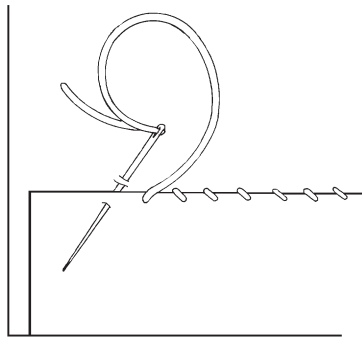

Fig. 13-9
- ❑ **Whipstitch.** Use this technique when the hem is finished with seam tape or serging. Using a single strand of thread in a needle, attach the thread to the hem at a seam. Take small, even stitches by catching both the garment and the edge of the seam tape, lace, or serging in each stitch. Pick up only one or two threads of fabric as you sew. (Fig. 13-9)